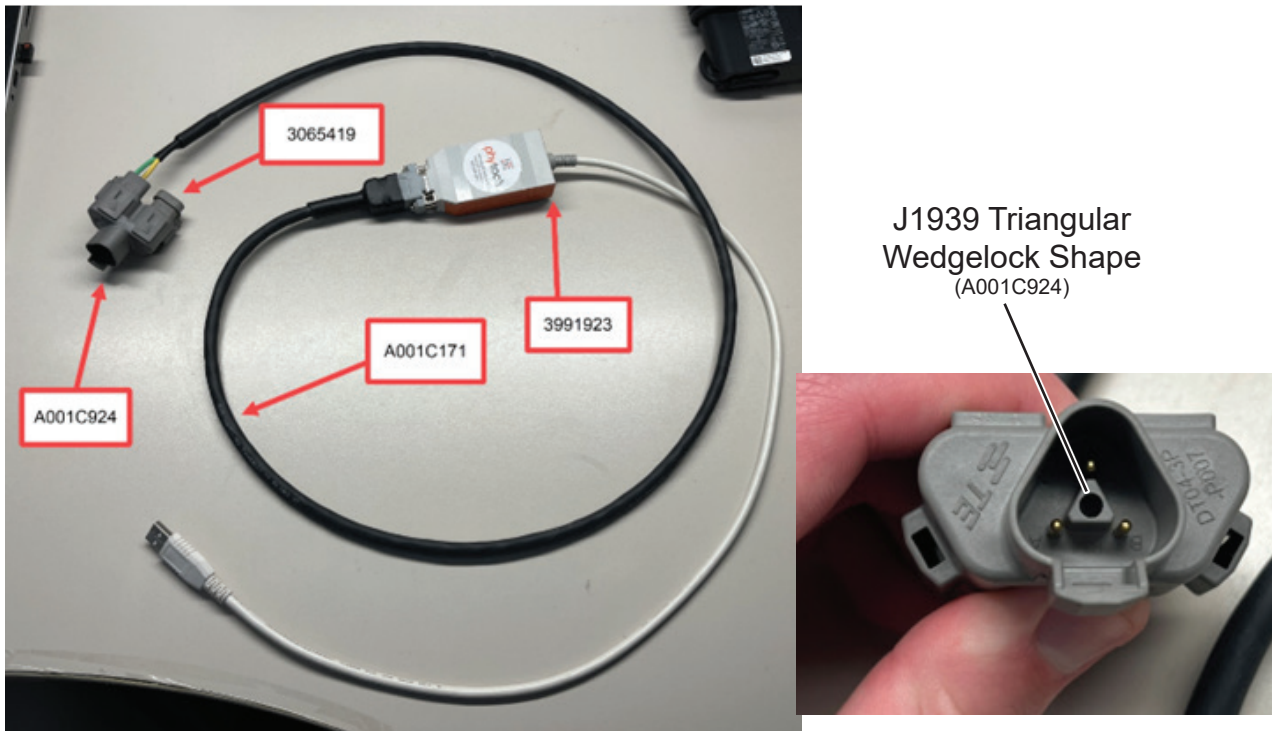

Figure 1
2. Assemble cables (A001C171, 3991923, 3065419) and receptacle connector (A001C924) into a PCAN-USB adapter cable as shown in Figure 1. Make sure the exposed connector on receptacle connector (A001C924) has the J1939 triangular wedgelock shape exposed. See Figure 1.